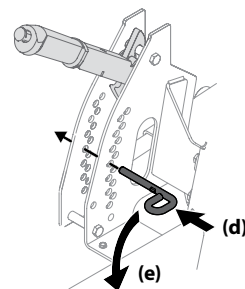

Figure 3-12
2. Insert the pin into the desired deck height best suited for your application (d). Turn the pin to lock it into place (e). See Figure 3-12.